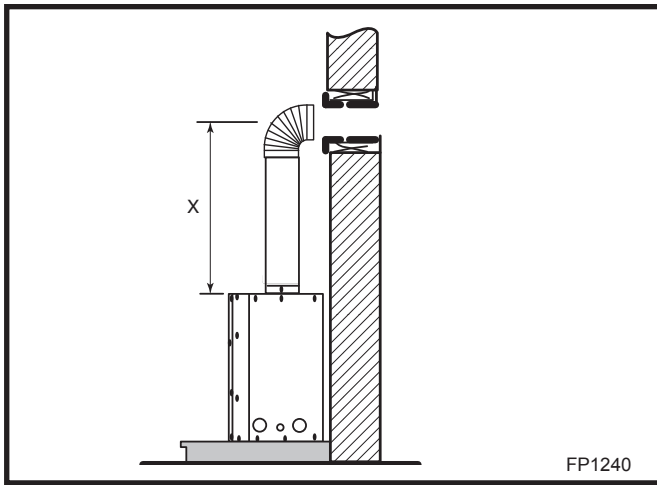

Fig. 23 Vertical height requirement.
Place fireplace into position. (Fig. 23) Measure the vertical height (X) required from the base of the flue collars to the center of the wall opening.